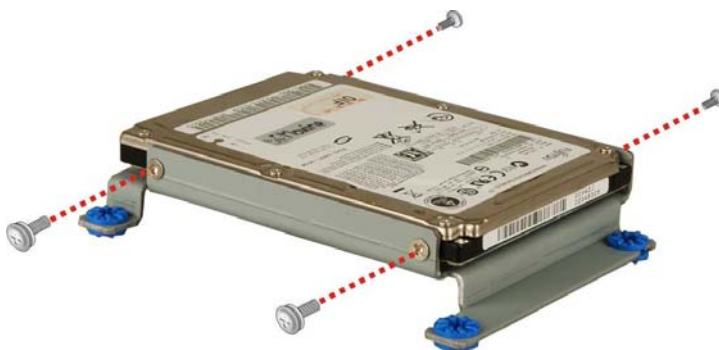

Figure 3-8: PPC-2710/PPC-2712 HDD Bracket Retention Screws
Step 3: Attach the HDD brackets to the HDD. To do this, align the four retention screw holes in the two sides of the HDD bracket with the retention screw holes on the sides of the HDD. Insert four retention screws into the HDD bracket (**Figure 3-8**).